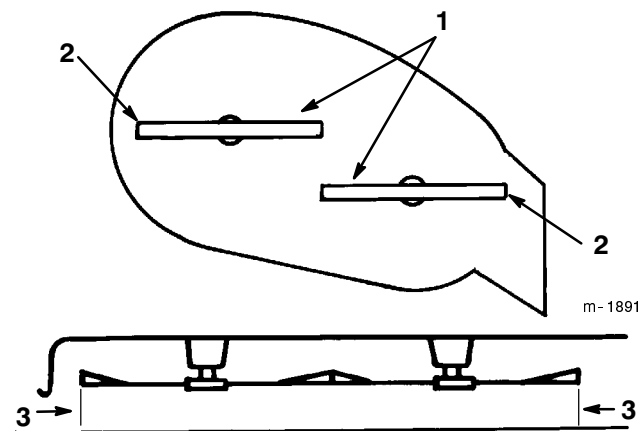

Figure 47
3. Carefully rotate the blade(s) side to side (Fig. 47). Measure between the outside cutting edges and the flat surface (Fig. 47). If both measurements are not within 3/16" (5 mm), an adjustment is required; refer to steps 4 and 5.